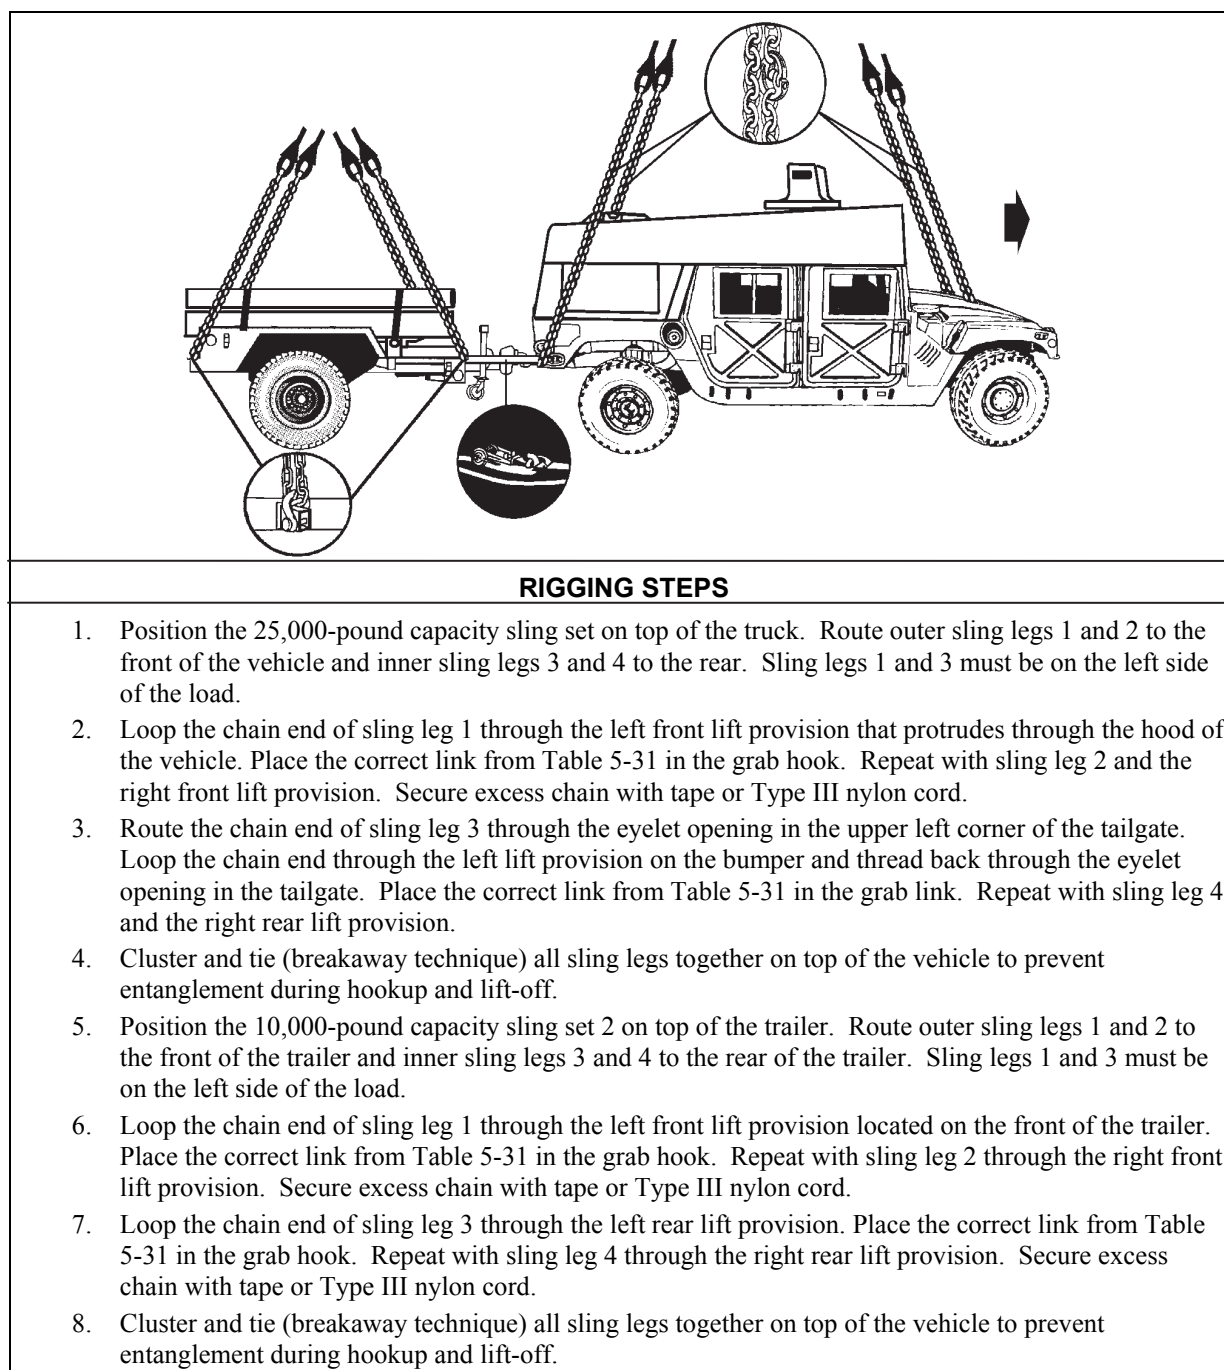

Figure 5-31. M1113 Truck, 1 1/4-Ton with Line of Sight Anti-Tank Fire Unit and High Mobility Resupply Trailer
- **Rigging.** Rig the load according to the steps in Figure 5-31.